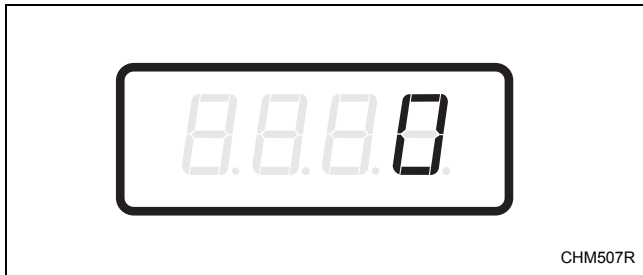

Figure 3
4. There are five digits in the Vend Price #1. The fifth digit will appear in the display and will flash one second on, one second off. Refer to *Figure 3*.